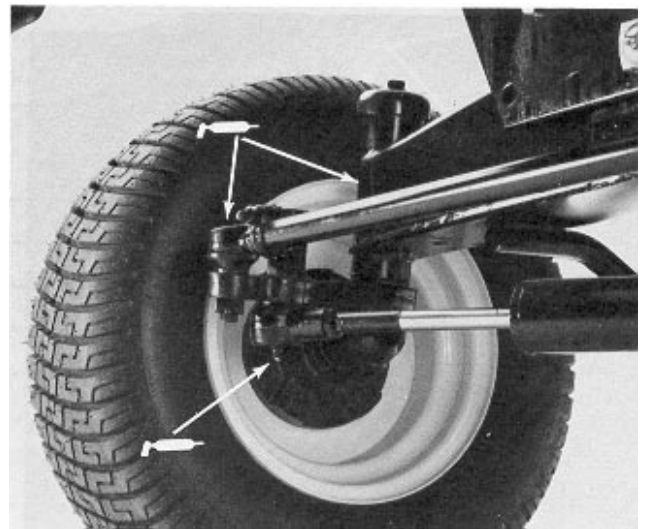

Figure 28
2 wheel drive machines only – cylinder end (2) center pivot (1), spindles (2), tie rod assembly (2) (Fig. 28).